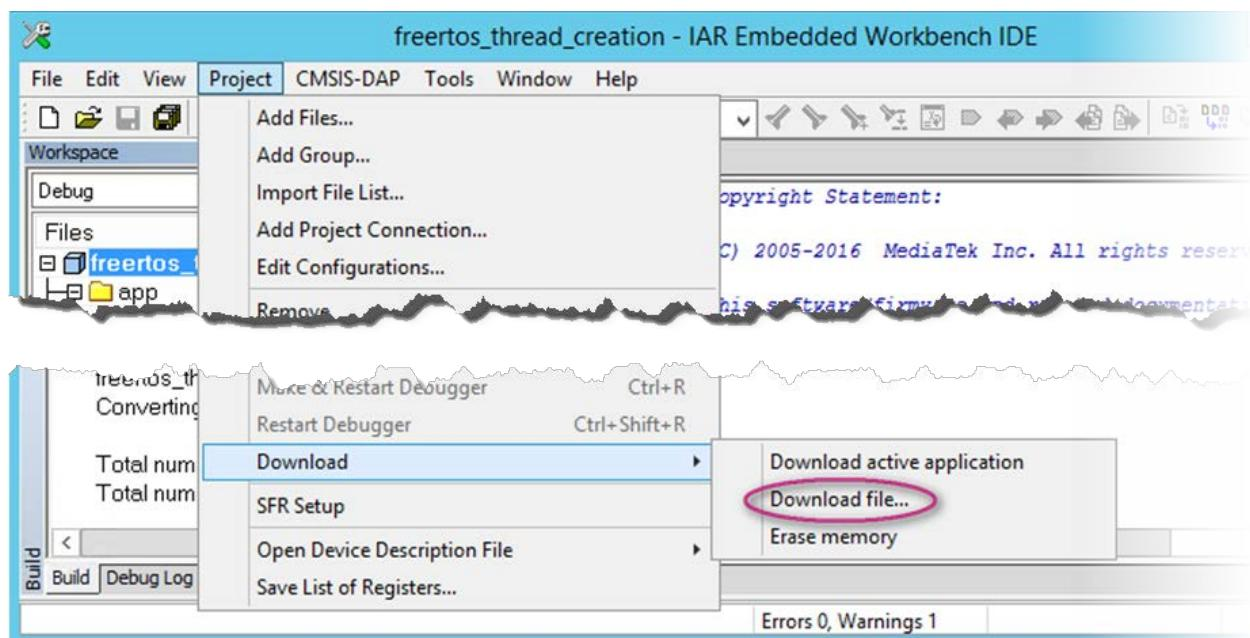

Figure 74. Download the project binary
- 2) Reset the board and then navigate to **Project**, then **Download** and click **Download file...** to download the project binary to target (see Figure 74).